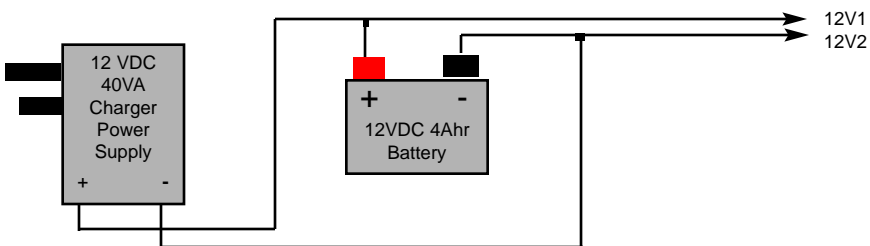

Figure 3.0
- **WARNING:** If battery backup is used, **DO NOT USE 12VAC 20VA** transformer comes with the system to charge the battery (explosion may occur), use a rechargeable battery backup with power-supply. See Fig. 3.0 Battery Backup Wiring Diagram.